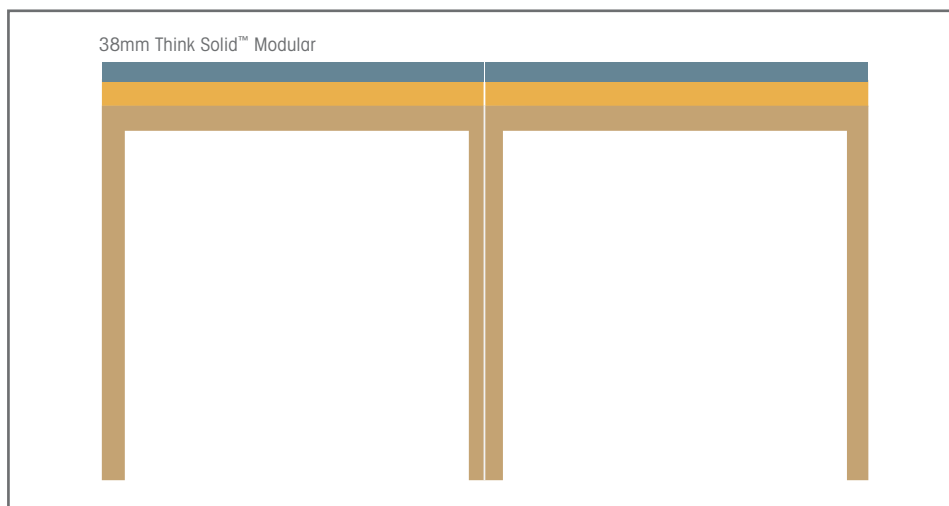
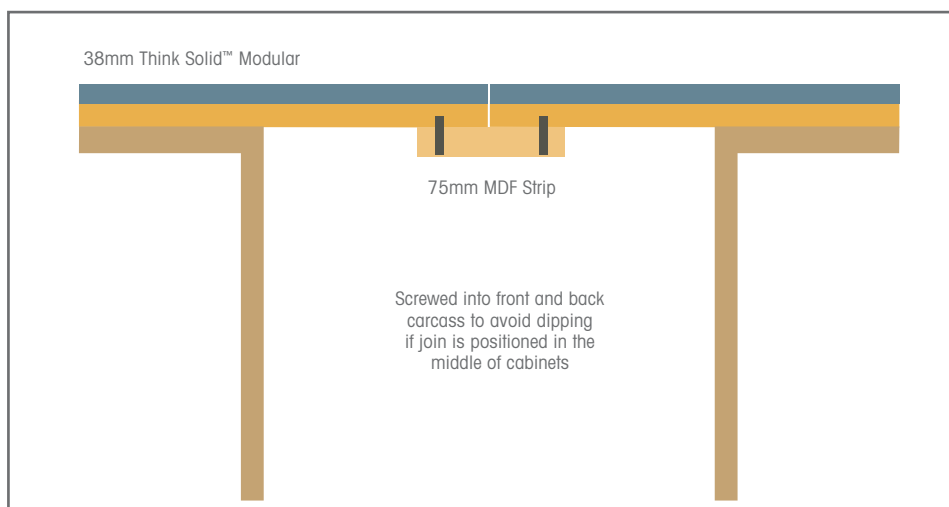

Fig. 4 Strongly recommended position
Fig. 5 (not advisable) Join in middle of unit with MDF strip (if recommended position not possible)
- Always cut so the join sits on the cabinet end panel of the cabinet wherever possible (Fig. 4), enabling benchtops to be joined on a gable end not in the middle. This gives added support to a join and a stronger area for shimming up the surface to achieve a flush join. Where this isn't possible an MDF strip (90x25mm) should be secured below the join to give added support (Fig. 5).